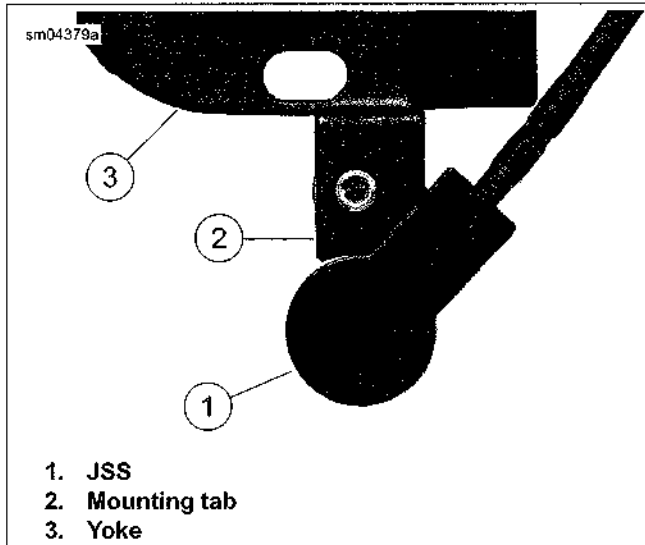

Figure 6-105. JSS Mounting (top view)
See Figure 6-105. Align JSS (1) with mounting tab (2) on jiffy stand yoke (3). If sensor is not properly aligned with mounting tab when screw is tightened, sensor or mounting tab can be damaged.